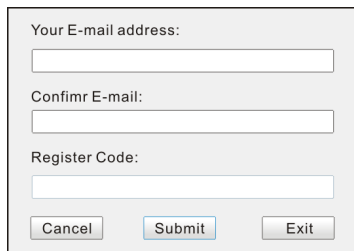

Figure 7-9
6. Click [Device Upgrade] to jump to Figure 7-9. Input the following information and click [Submit] to enter the update page.